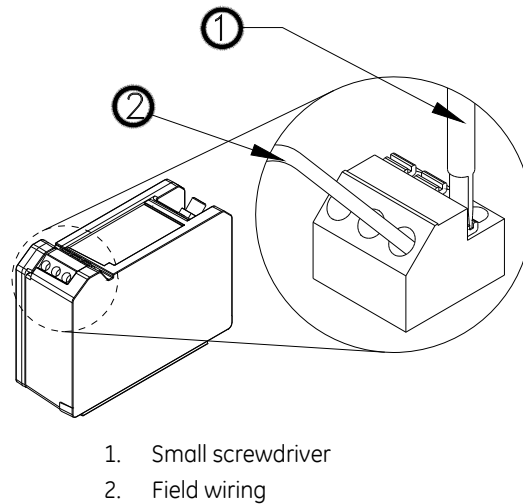

Figure 2-14: Inserting Field Wiring Into Proximito
3. Use a small regular screwdriver to push down on the orange lever that corresponds to the position in the terminal block where the field wire will be installed and insert the field wire, as shown in Figure 2-14.